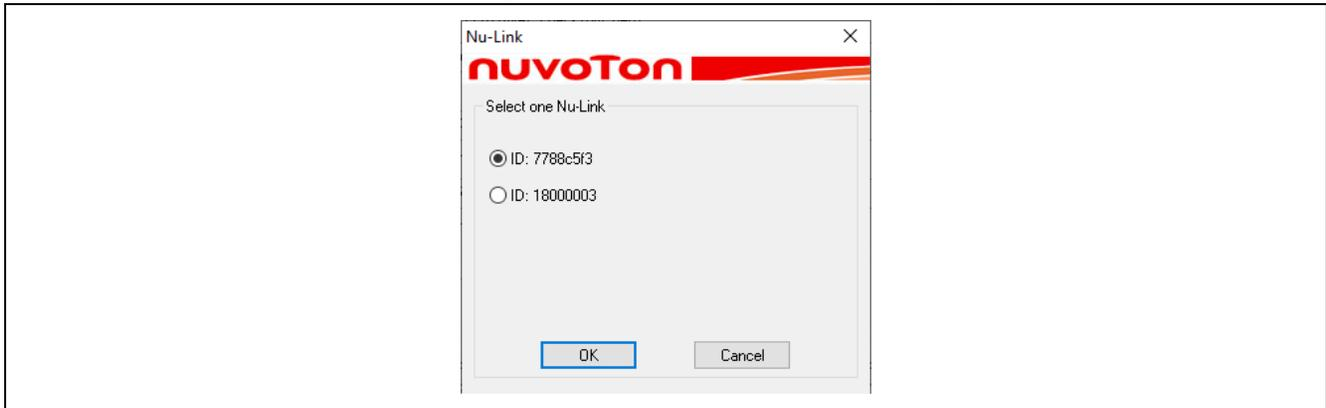

Figure 4-4 Select One Nu-Link Debugger and Programmer
(4) And then click the **Connect** button. Go to (5) if more are connected with the host computer than one Nu-Link Debugger and Programmer, such as Nu-Link2-Pro. Go to (6) if only one Nu-Link2-Pro is connected with the host computer.
- (5) If multiple Nu-Link Debugger and Programmers have been connected with the host computer, a message appears and asks users to make a selection from one of these Nu-Link Debugger and Programmers. Clicking **OK** will connect the selected adapter with the host, as shown in Figure 4-4. When a Nu-Link Debugger and Programmer is selected and connects to the host successfully, the Status LED starts blinking.